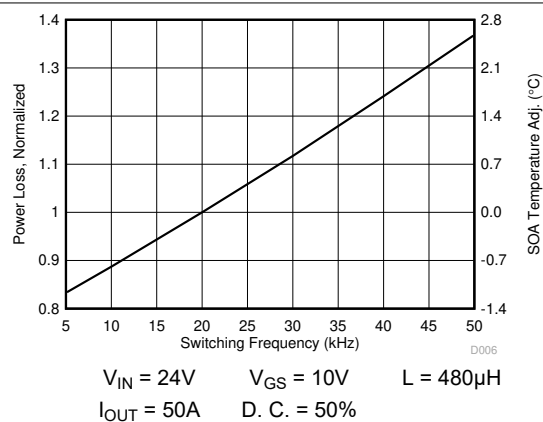

Figure 4-4. Normalized Power Loss vs Switching Frequency
- Normalized power loss for switching frequency \approx 1.24 (Figure 4-4)
- SOA adjustment for switching frequency \approx 1.7°C (Figure 4-4)